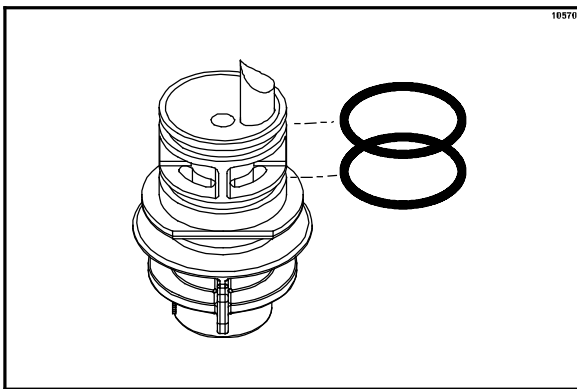

Figure 7
4. Install the o-rings on the mixing nozzle. (See Figure 7.)